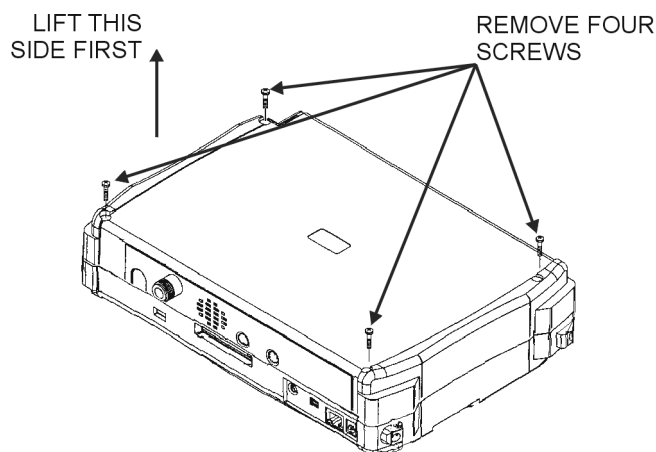

Figure 7-1. Remove the Four Screws
4. Use a Phillips screwdriver to remove the four screws securing the two halves of the MT8222A case together (Figure 7-1).